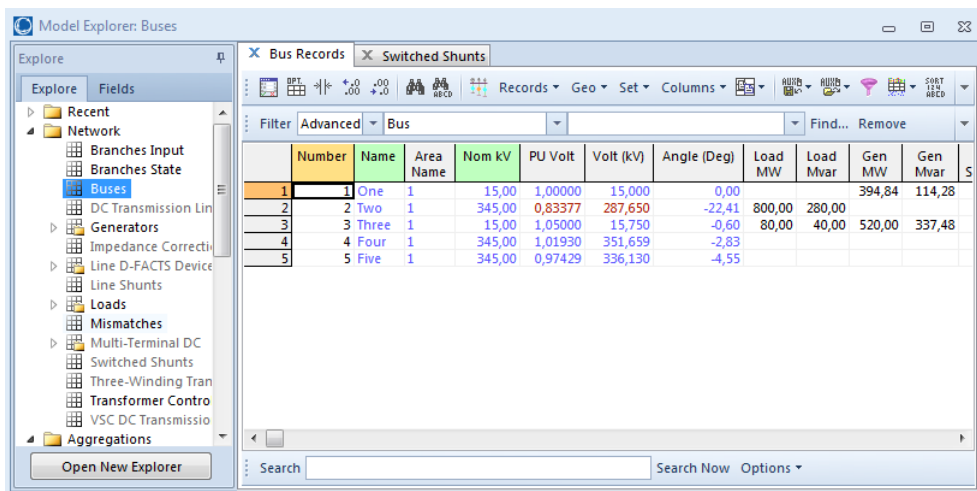

Figure 3: Model Explorer example for buses
- The *Model Explorer*, that gives access to all information on the modeled system, such as bus, line and generator characteristics (name, voltage, currents, phase, costs, etc.). An example is shown for buses in Fig. 3. This is the main tool to use to obtain precise information on the characteristics and status of each system element.
If you observe strange results, use the *Model explorer* (see Fig. 3) to check that your model parameters are correct for all buses, loads, generators and lines.